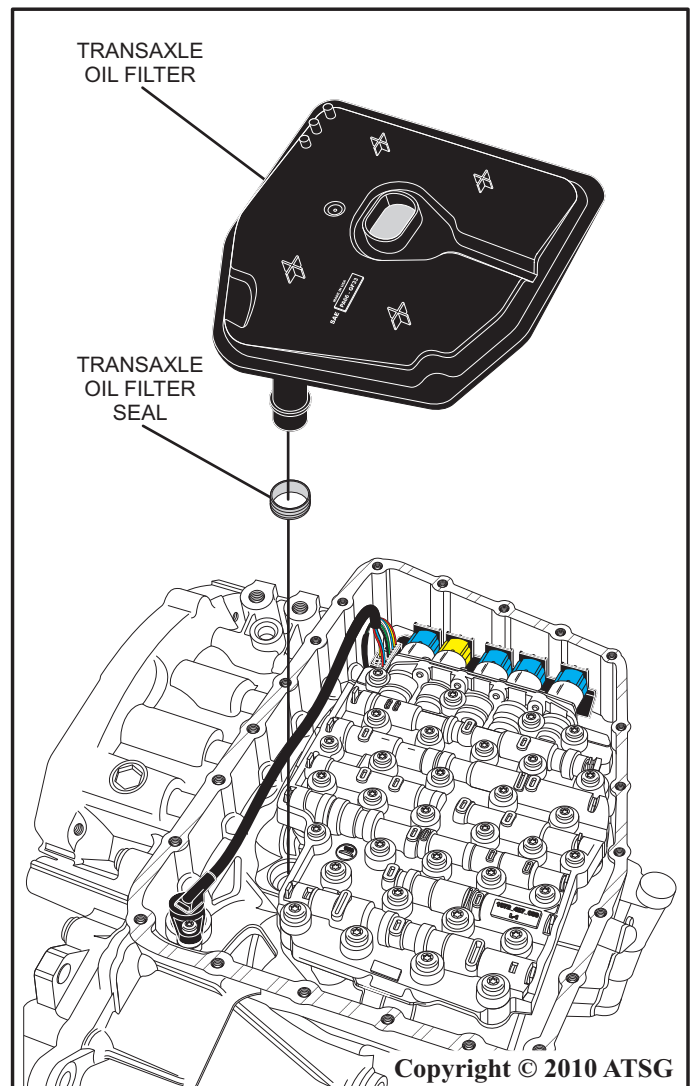

Figure 6
10. Remove the transaxle oil filter by twisting and lifting straight up and discard filter as shown in figure 6.